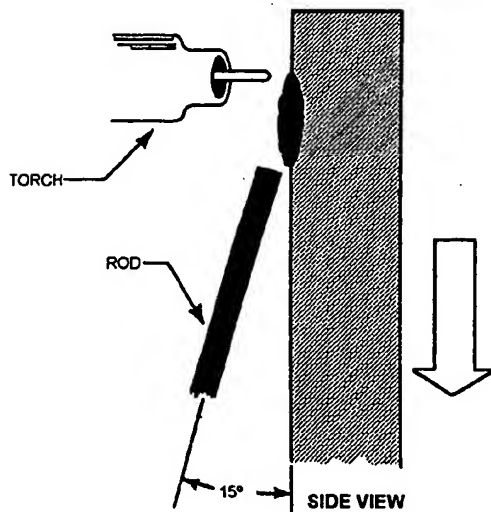

Figure 8-20.—GTA welding vertical downward.
**VERTICAL WELDING.**— When welding thin material with the GTA welding process, you should weld from the top, moving downward (fig. 8-20). This helps you produce an adequate weld without burning through the metal. Filler material is not normally needed for welding downward.